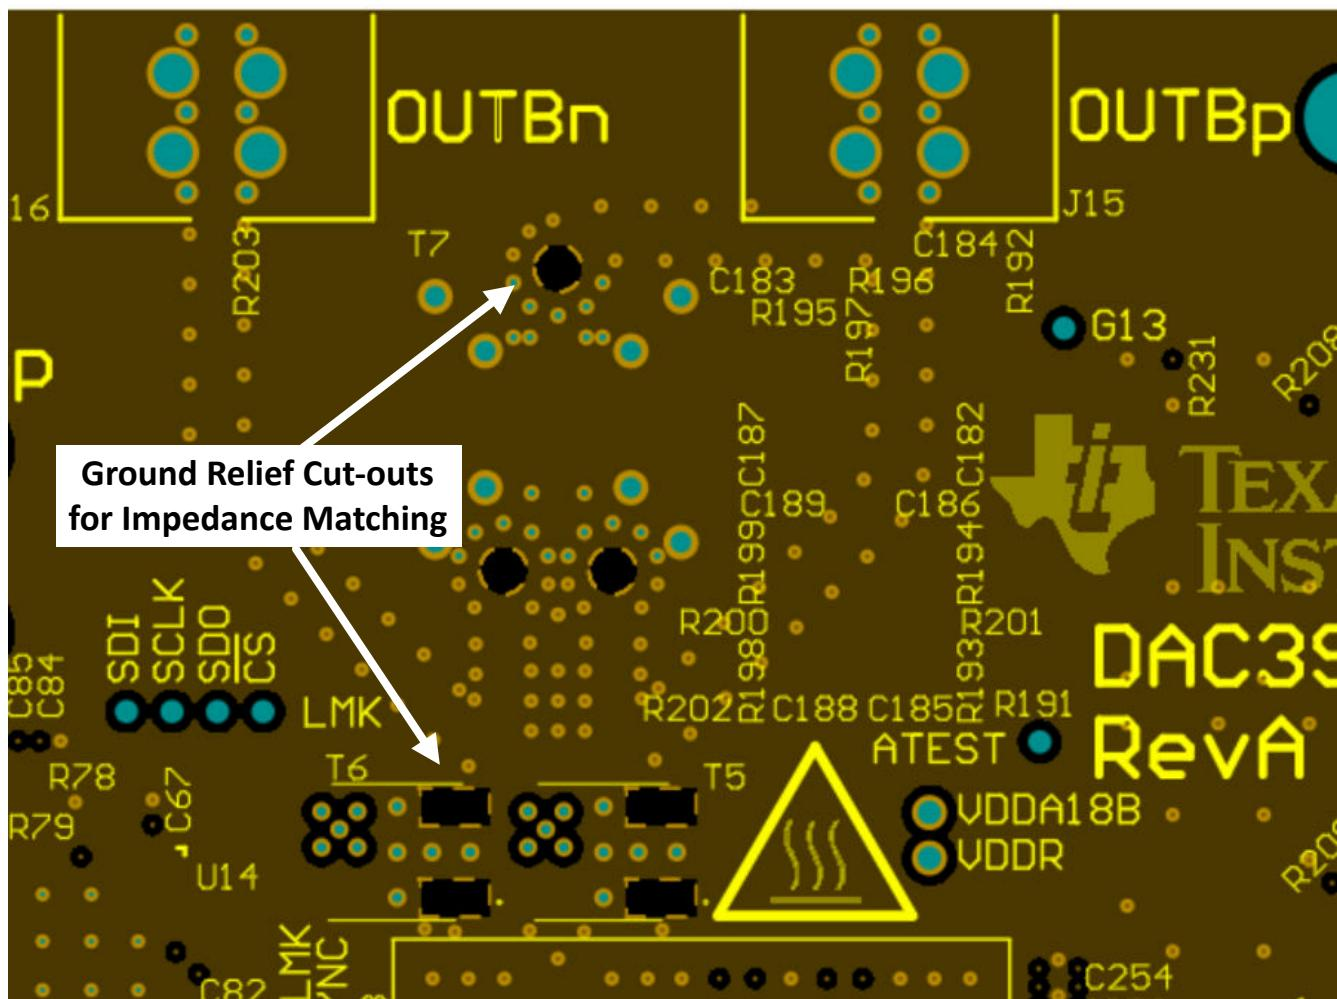
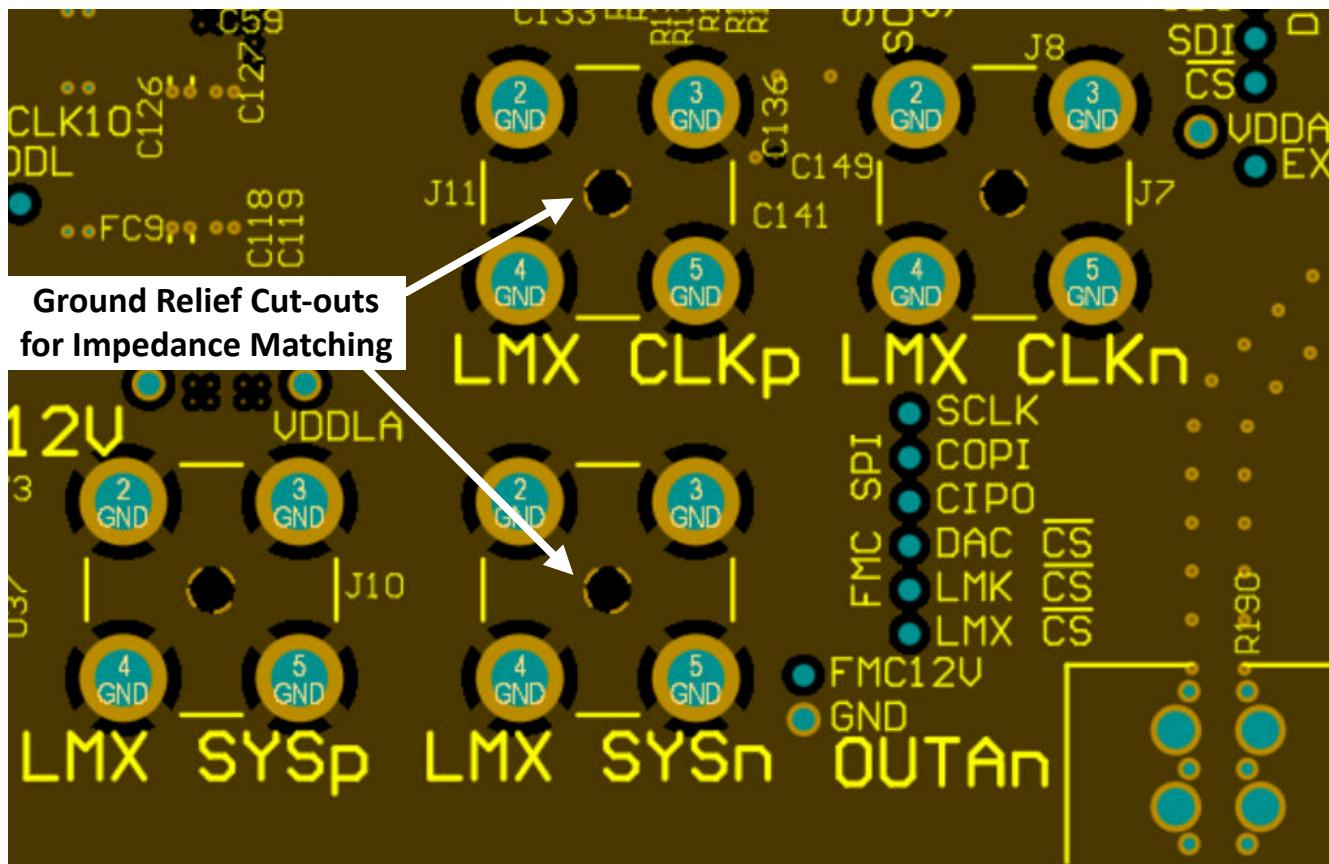

Figure 8-24. Ground Cut-outs below Balun and Bias-T Pins
Figure 8-25. Ground Cut-out Below SMA Connector Center Pin
5. Incorporate any ground plane cutouts necessary at component landing pads, ie – SMA connectors, baluns, etc., to avoid impedance discontinuities at these locations. Cut-outs below these landing pads on one or multiple ground planes to achieve a pad size or stackup height that achieves the needed $50\text{-}\Omega$, single-ended impedance. See Figure 8-24 and Figure 8-25 as an examples.